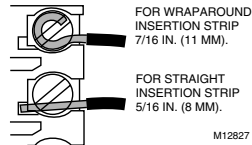

Fig. 4. Correct wiring technique.
4. Run a low voltage wire from the humidifier (and dehumidifier or ventilator for H1008D) and equipment to the control terminals. See Fig. 5-9. Use either straight in or wraparound wiring connections. See Fig. 4.